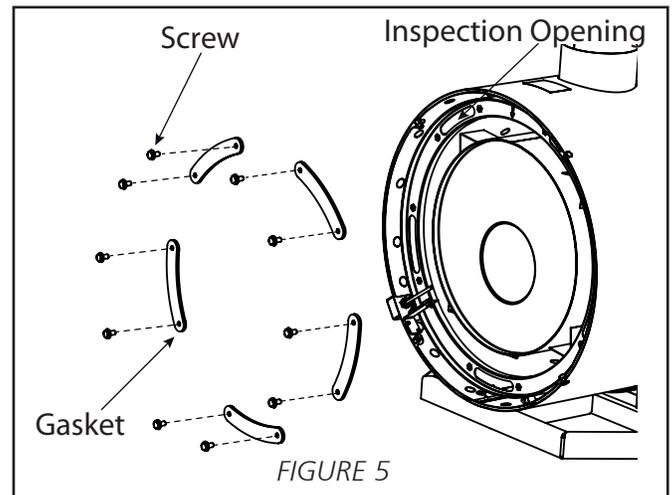

FIGURE 5
2. Remove the plates, which close the inspection openings, by removing the screws. See Figure 5.
3. Remove the gaskets installed and do not reuse them. Only use new and original gaskets. See Figure 5.
4. Spray high pressure water inside the chamber through the inspection openings. Refer to Figure 5. When washing, move the nozzle in various positions so the water reaches all the slots of the combustion chamber.